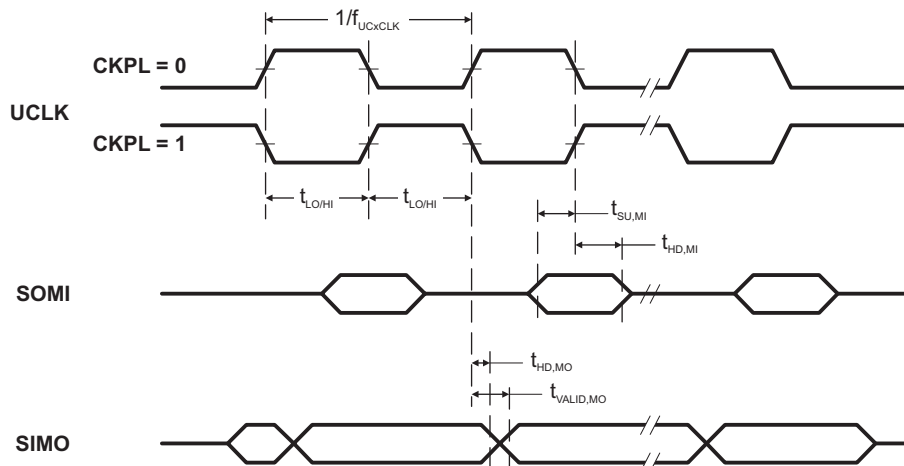

Figure 12. SPI Master Mode, CKPH = 0
(see Figure 12 and)
- (1) $f_{UCxCLK} = 1/2t_{LO/HI}$ with $t_{LO/HI} \geq \max(t_{VALID,MO}(USCI) + t_{SU,SI}(Slave), t_{SU,MI}(USCI) + t_{VALID,SO}(Slave))$. For the slave's parameters $t_{SU,SI}(Slave)$ and $t_{VALID,SO}(Slave)$, see the SPI parameters of the attached slave.
- (2) Specifies the time to drive the next valid data to the SIMO output after the output changing UCLK clock edge. See the timing diagrams in Figure 12 and .
- (3) Specifies how long data on the SIMO output is valid after the output changing UCLK clock edge. Negative values indicate that the data on the SIMO output can become invalid before the output changing clock edge observed on UCLK. See the timing diagrams in Figure 12 and .